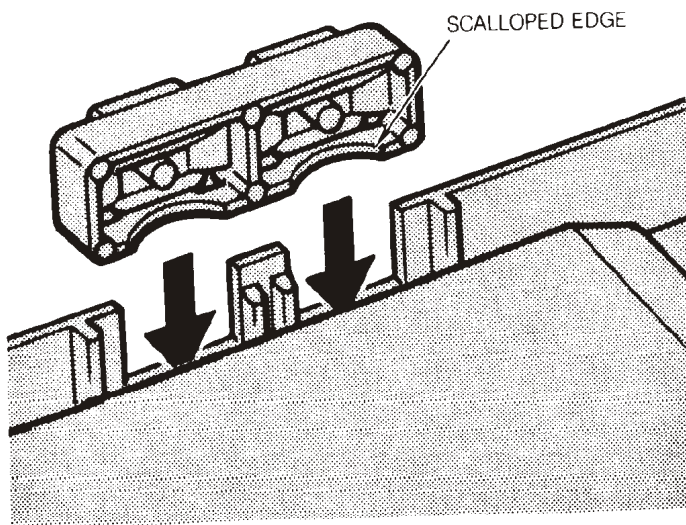

Figure 14
**(6)** Press action buttons firmly in position. The scalloped edge should be on the **BOTTOM, FACING INWARD**. The buttons will only fit one way. Refer to Figure 14 below.